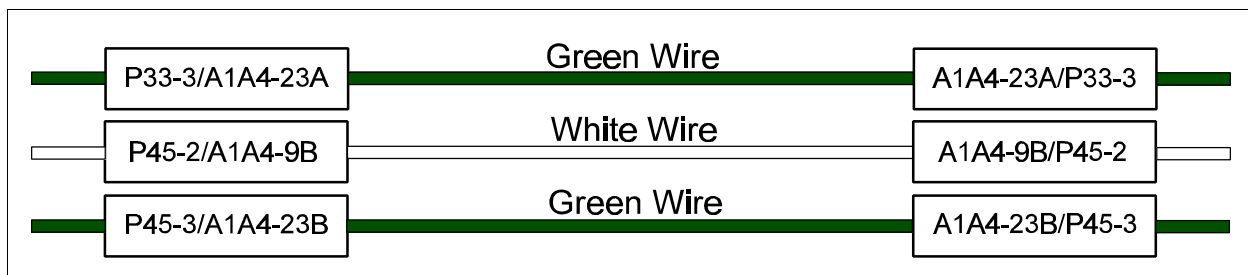

Figure 7 UPS Power Wires
17. Take the remaining green wire length from step 6 and cut it into two equal lengths, approximately 2 feet. Using these two wires and the remaining 3-foot white wire length, also from step 6, install wire markers as illustrated in figure 7.